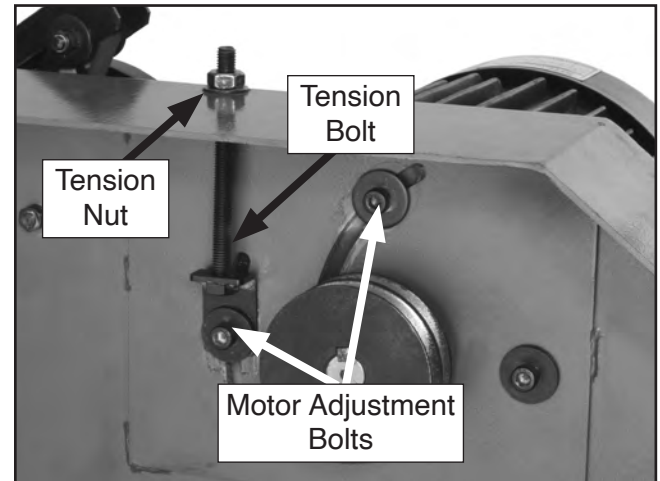

Figure 75. Motor mount bolts and tension bolt.
3. Loosen the motor adjustment bolts shown in **Figure 75**.
3. Loosen the motor mount bolts shown in **Figure 75**, then turn the tension bolt counter-clockwise, and pull the V-belts off.